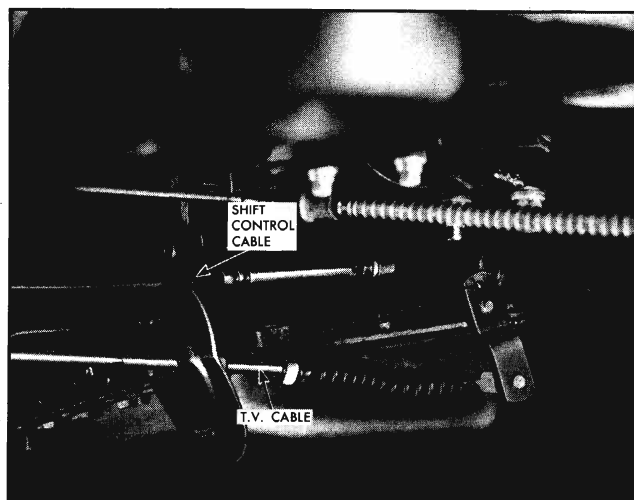

Fig. 7A-18 Shift Control Cable and Throttle Valve Cable
8. Locate cable in approximate position in car as shown in Fig. 7A-19.
11. Complete cable installation as shown in Fig. 7A-19 working from rear of car forward. Keep slack in cable at front of car.